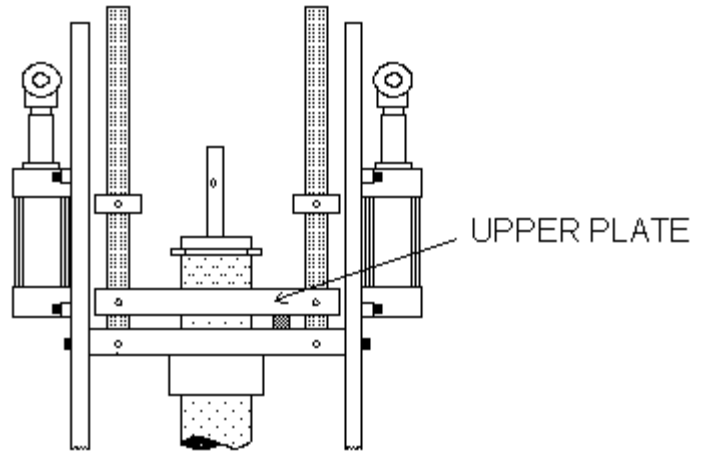

FIG. 5
12). Remove barrel by pulling up on UPPER PLATE with barrel still attached. Fig. 5